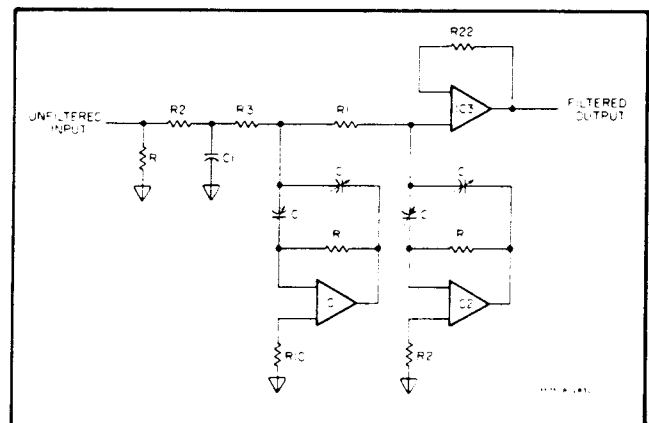

**Figure 4-4. Phase Control Filter Output.**
4-33. The two signals applied to the Exclusive OR gate in the "Q" Phase Detector are A' and Bd'. The output of the Exclusive OR gate (designated P3) is high (1) when A' and Bd' are in opposite states (one high, one low) and low (0) when they are in identical states (both high, both low). The width of the output pulses, therefore, represents the magnitude of the phase difference between the two signals. The Exclusive OR output is applied to a Differential Amplifier which provides the voltage swing required to gate on and gate off the Constant Current Source. The pulsating dc from the Constant Current Source is applied to the Buffer/Integrator which, like the Buffer/Integrator in the Phase Detector, serves as an impedance converter, an inverter and high frequency integrator. The output of the Buffer/Integrator is applied to the Phase Control Filter which detects the average value of the pulse train and provides a dc output voltage proportional to phase magnitude. Figure 4-4 is a graph showing the voltage level vs. phase at the output of the Phase Control Filter. This voltage is applied to a Threshold Detector (A111C9) which